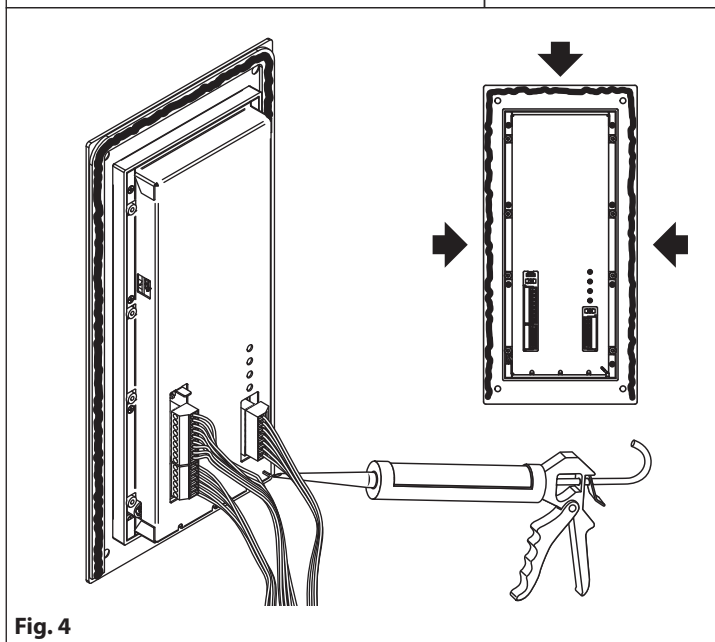

Fig. 4
**⚠ In order to prevent water ingress we highly recommend using a silicon sealant between the plate and the wall ON THE LEFT, TOP AND RIGHT SIDES ONLY. DON'T USE SILICON SEALANT ON THE BOTTOM SIDE OF THE PLATE (Fig. 4);**